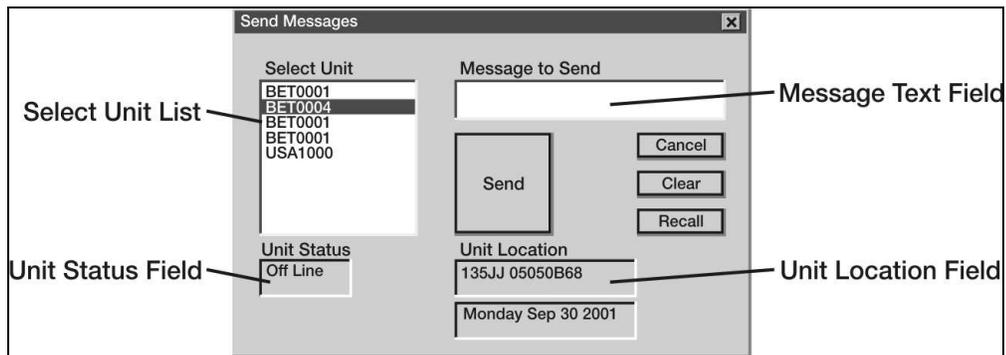

Figure 3-34. Send Message to Control Station
- (2) Send message to control station (CS) select send message - to CS or press F2 (see Figure 3-34).
- (3) Send a message to a mobile unit select send message - to mobile or press F3 Send message to a Control Station).
- (4) Choose recipient for your message by choosing a unit from select unit list. Before you type a message, check the unit status field. This field will let you know if the intended recipient is on line of off line. The unit location field will indicate the position of unit.
- (5) Type the message into the message text field.
- (6) Press send once the message is complete. Press cancel button to return to the main window without sending. Press recall button to load the last sent message into the message box. Press clear to clear.
- (7) Go to read messages - review sent messages to see if the recipient received the message.